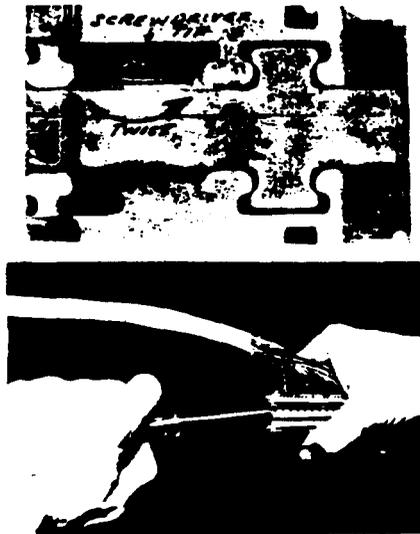

FIG. 42 SEPARATING RECEPTACLE
4.426 After testing, separate the test module from the half-tap by inserting the tip of a 3/16 inch blade screwdriver in the end slots of the half tap receptacle connector module interface. Twist the screwdriver blade to raise the ends of the receptacle and release the end latches. See Fig. 42